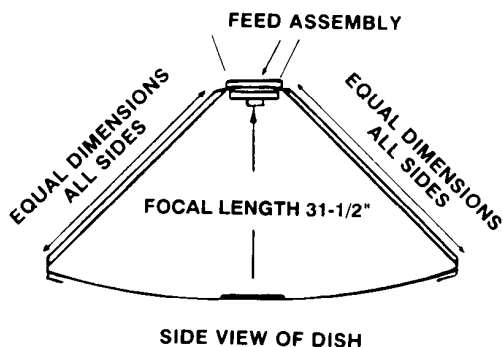

**FIGURE 7**
**STEP 3:** Assemble feedhorn and LNB according to instructions supplied. Use template or other means provided to determine orientation of feed assembly. Attach wiring to feed support leg with tape or wire ties or feed wiring through hole provided in feed support leg. See Figure 7.